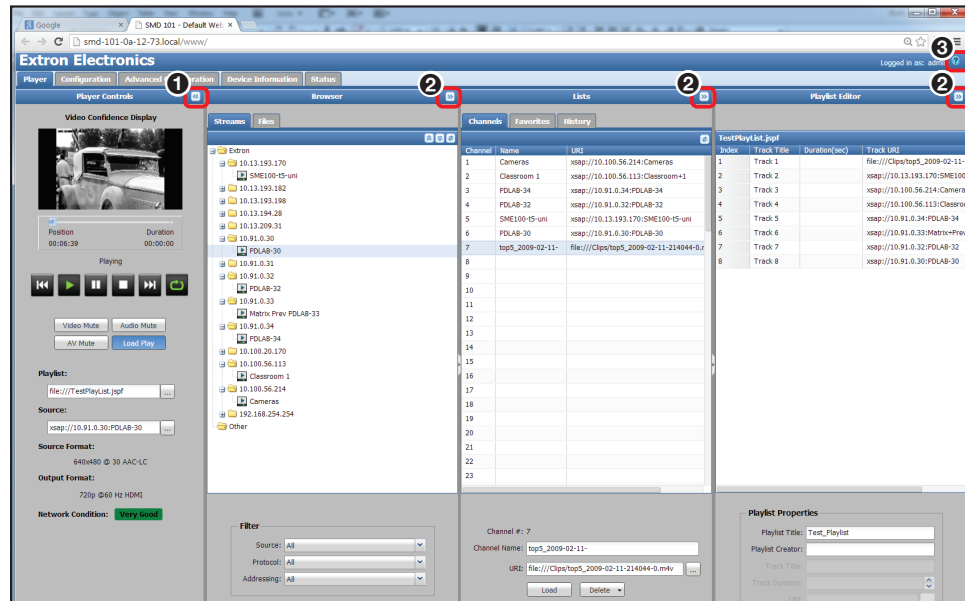

Figure 11. Player Page - All Panels Open
The web interface opens as shown in figure 11 (below). The page contains multiple panels that are collapsed and expanded using the buttons at the top of each panel (see figure 11, ❶ and ❷).
An interactive embedded help file is always available by clicking the help icon (see figure 11, ❸) from any page or panel.